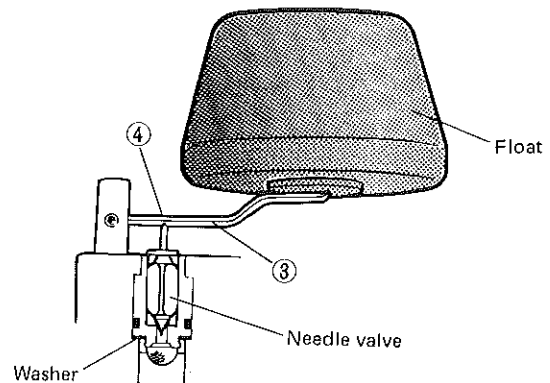

Fig. 5-17
If the measurement is more than specified value, bend the part ③ of the float arm indicated in Fig. 5-17 so that the specified value can be obtained.